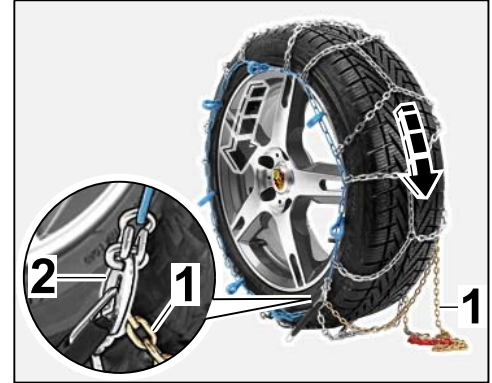

Figure 6
2.2.1 Drive forward or back to turn the wheel by approx. 1/6 (⇒ *Figure 6 -arrows-*).
The tensioning chain (⇒ *Figure 6 -1-*) must **NOT** be under the wheel.